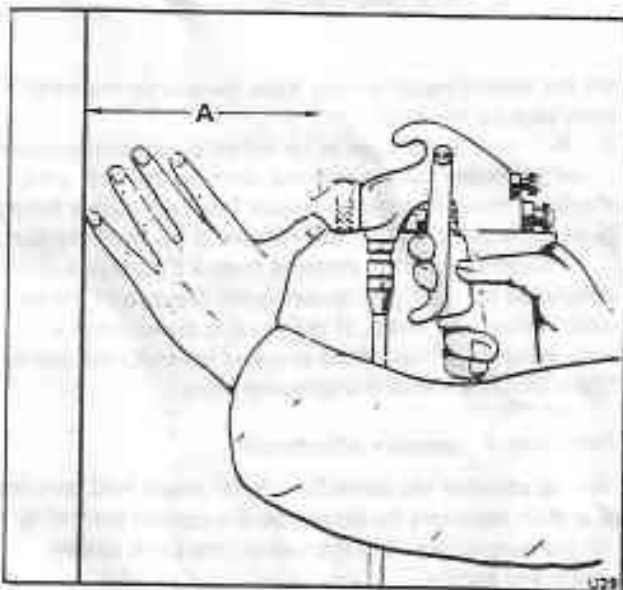

Fig. S17-28 Quick guide to spraying distance
1. The spray gun should be held at right-angles to the surface to be sprayed. The distance between the surface and the face of the air cap should be between 152,40 mm and 203,20 mm (6 in and 8 in), or a hand span as a quick check (see fig. S17-28).